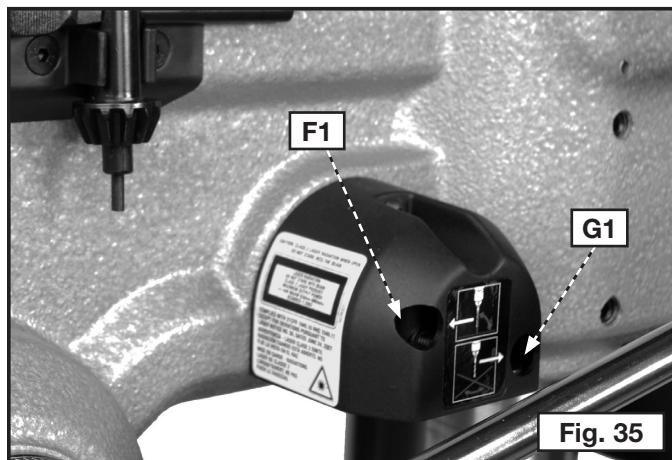
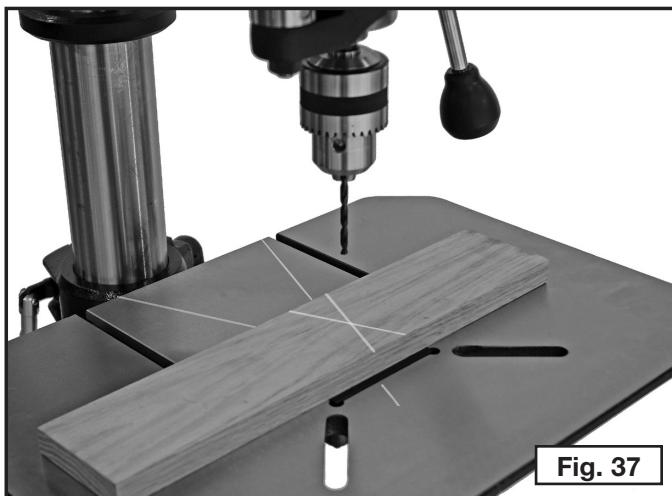

Fig. 35
Fig. 37
1. Using an included hex key, turn the front screw (F1) Fig. 35 on the right laser pod so that its red line is parallel with the line you drew on the board.
1. Lay board flat on table (Fig. 37) and make sure it does not move.
3. For both lasers, use the same hex key in the the back screw (G1) (Fig. 35 and 36) and dial the lasers so they both cross this point together, as shown in Figure 37.